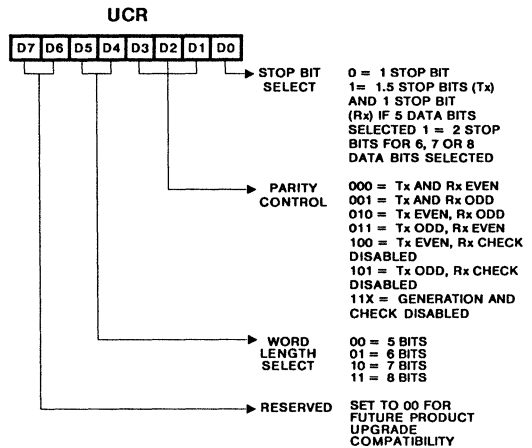

FIGURE 1.
The UCR is a write only register which configures the UART transmitter and receiver circuits. Data bits D7 and D6 are not used but should always be set to a logic zero (0) in order to insure software compatibility with future product upgrades. During the Echo Mode, the transmitter always repeats the received word and parity, even when the UCR is programmed with different or no parity. See Figure 1.